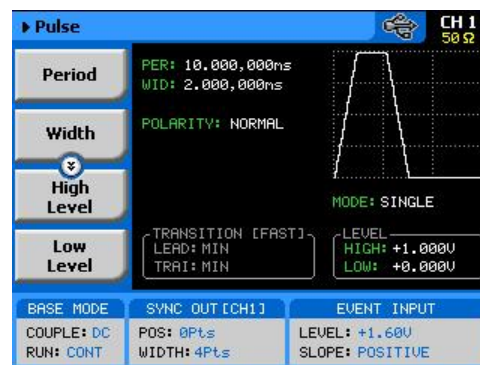

Figure 3-79, User-composed Pulse Patterns Menus
1. Push the Pulse button in the Function group keys. The pulse dialog box, as shown in Figure 3-79 will be displayed.